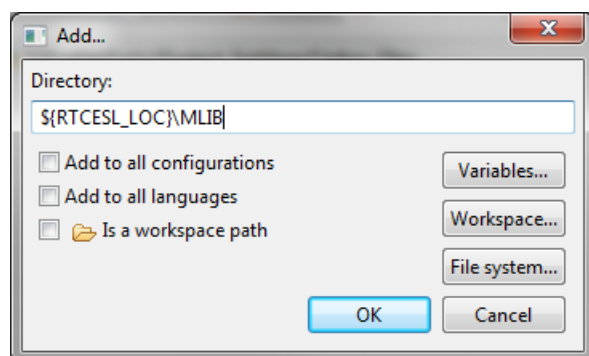

Figure 1-19. Library path inclusion
5. Look for the RTCESL_LOC variable by clicking Variables..., and then finish the path in the box by adding the following (see Figure 1-19): \${RTCESL_LOC}\MLIB.